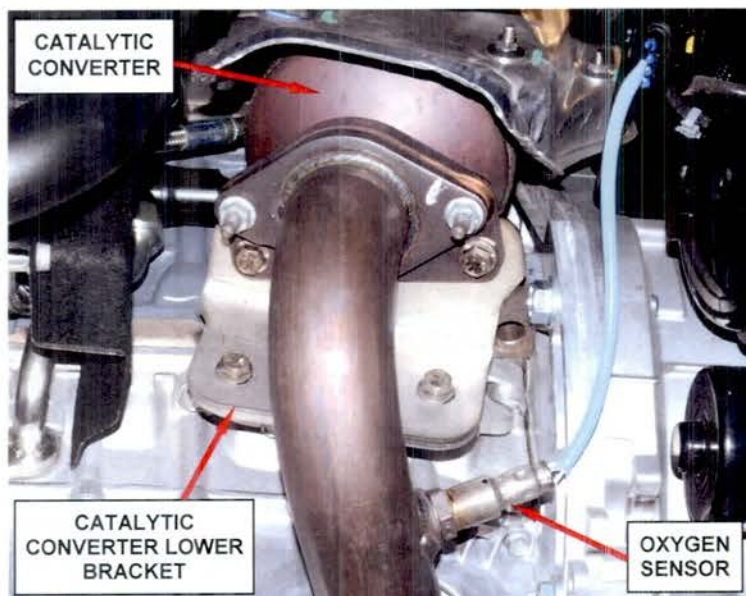

Figure 7 – Catalytic Converter Lower Bracket
22. Remove and save the catalytic converter lower bracket (Figure 7).